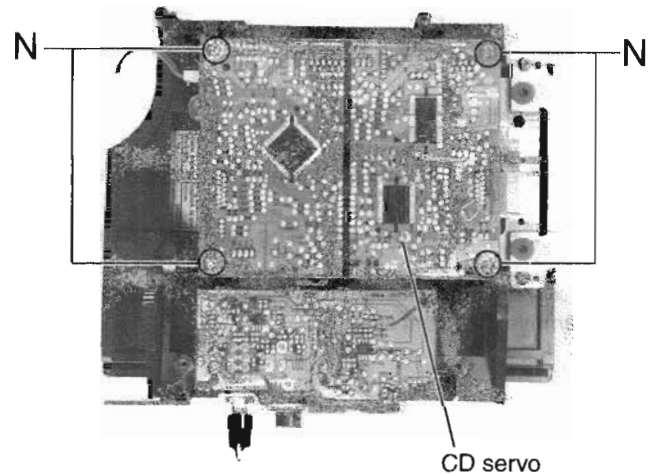

Fig.11
■ CD Servo P.C.B removal (See Fig.11)